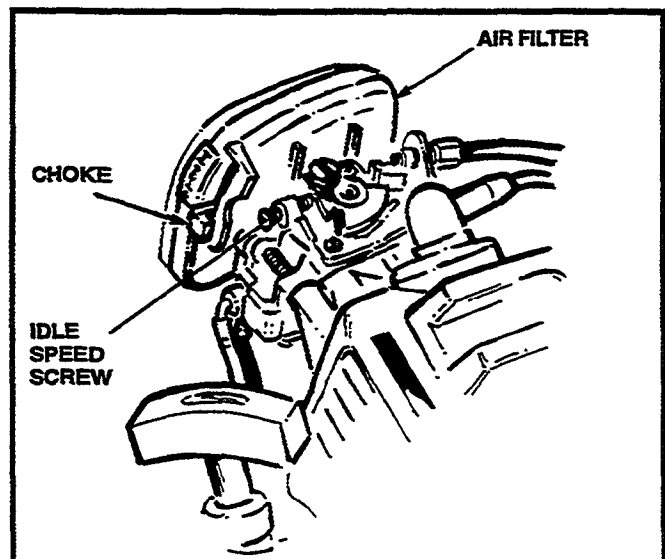

Figure 11
- Adjusting idle speed should always be done with a tachometer to insure proper idle speed (2,800 to 3,300 rpm). If a tachometer is not available, the idle speed may be adjusted as follows (Figure 11).